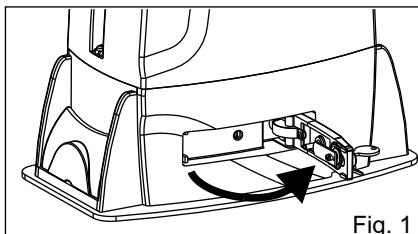

Fig. 1
- 1) Disconnect the power supply, release the motor (Fig. 1) and put the leaves manually next to the stop in closing (Fig. 3-4).